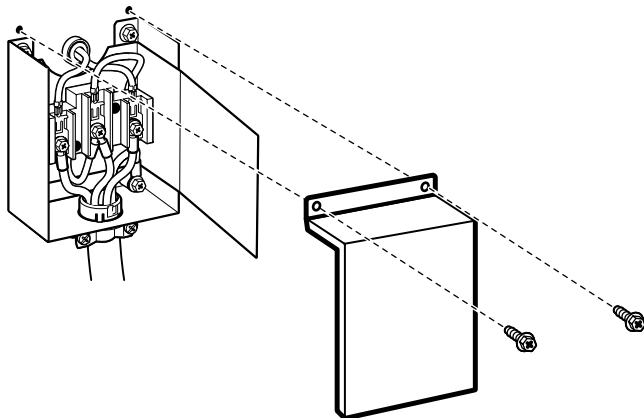

Figure 1
2. Remove the cover plate from the lower left corner of the back of the dryer. See figure 1.